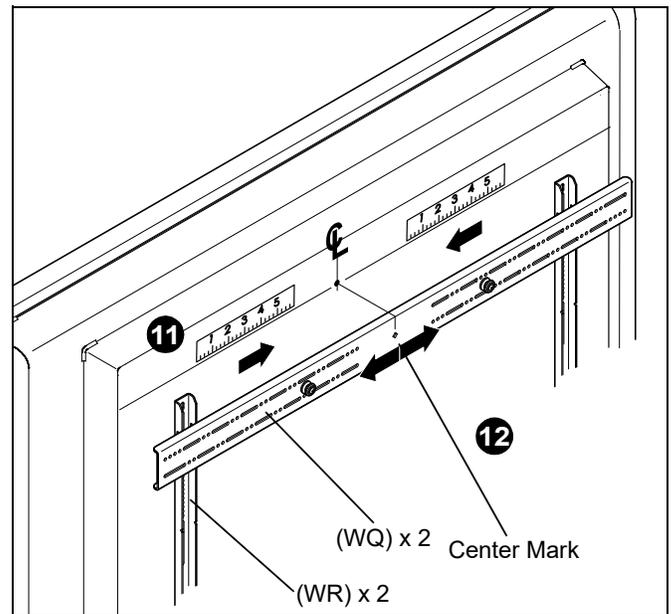
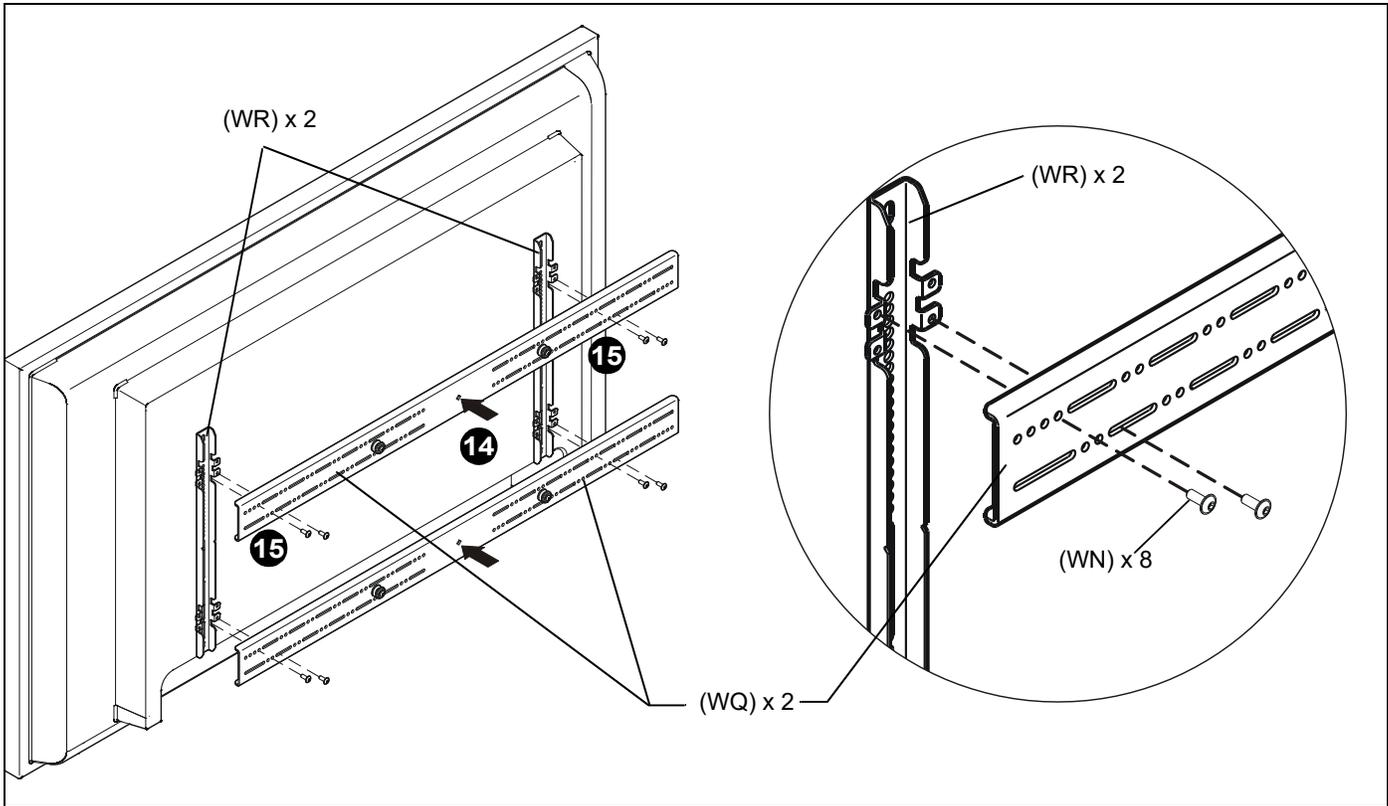

Figure 31
Figure 32
11. Determine and mark the horizontal center position between the Left and Right *TOP* mounting holes in display. (See Figure 31)
12. Determine and mark the horizontal center position between the Left and Right *BOTTOM* mounting holes in display. (See Figure 31)
13. Orient upper horizontal mounting bracket (WQ) so that flanges are facing towards display and resting in recessed area of left and right vertical mounting brackets (WR). (See Figure 31)
14. Adjust Upper horizontal mounting bracket (WQ) position until center diamond in horizontal mounting bracket (WU) aligns with mark made in Step 11, and mounting holes and slots in horizontal mounting bracket (WQ) are aligned with threaded holes in mounting tabs of left and right vertical mounting brackets (WR). (See Figure 31) and (See Figure 32)
15. Use 1/8" hex key (WP) to secure upper horizontal mounting bracket (WQ) to left and right vertical mounting brackets (WR) using four button head flanged screws (WN). (See Figure 32)
16. Repeat Steps 12 through 15 for lower horizontal mounting bracket (WQ).
IMPORTANT ! : The orientation of, and mounting holes used, when installing the lower horizontal mounting bracket must be the same as the upper horizontal mounting bracket. Vertically align upper and lower brackets by aligning holes or end of slots. (See Figure 32)
IMPORTANT ! : Whenever possible install mounting screws diagonally as shown in detail in Figure 32.